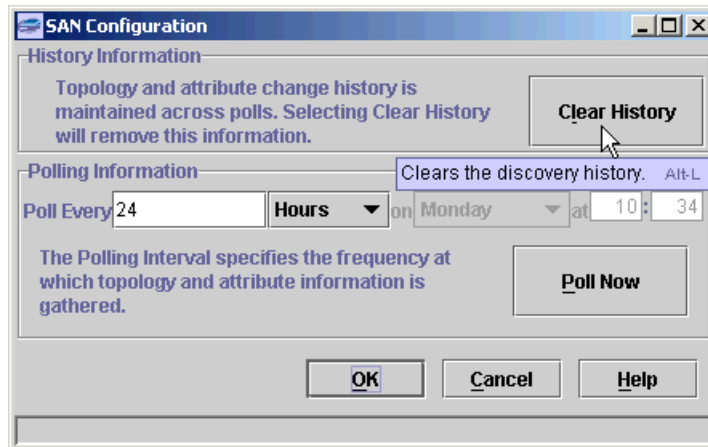

Figure 14-9 Polling interval
5. On the SAN Configuration window (Figure 14-9), configure the polling interval for Tivoli SAN Manager automatically gather information about the SAN topology and other information.